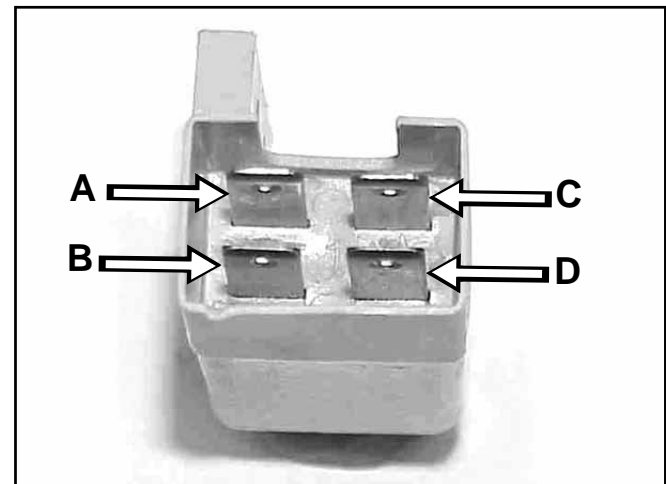

Figure 22 Brake Switch
2. Using a multimeter, follow the procedures listed below (Figure 22):